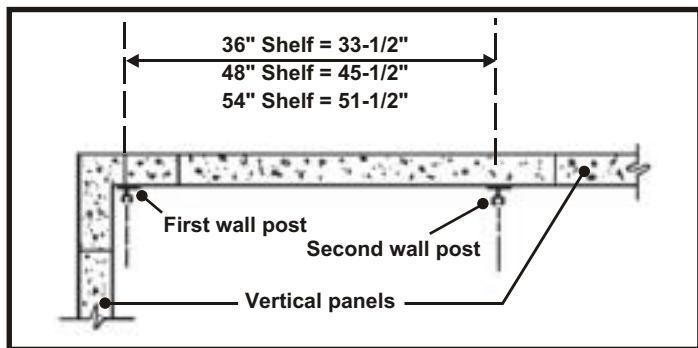

Fig. 43
3. Determine position of second shelf post. See Fig 43